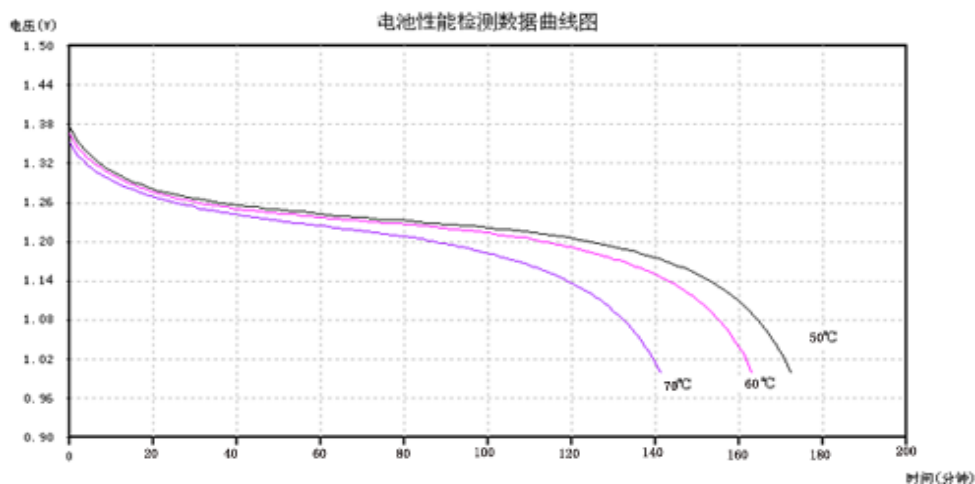

Fig 2
4. The sufficient electric discharge diagram of curves (see Figure 2)